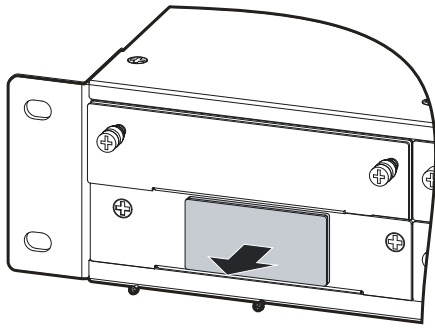

Figure3-15 Dismantle the SNMP card plate
Step 1 Dismantle the SNMP card plate on the system control box, as shown in Figure3-15.